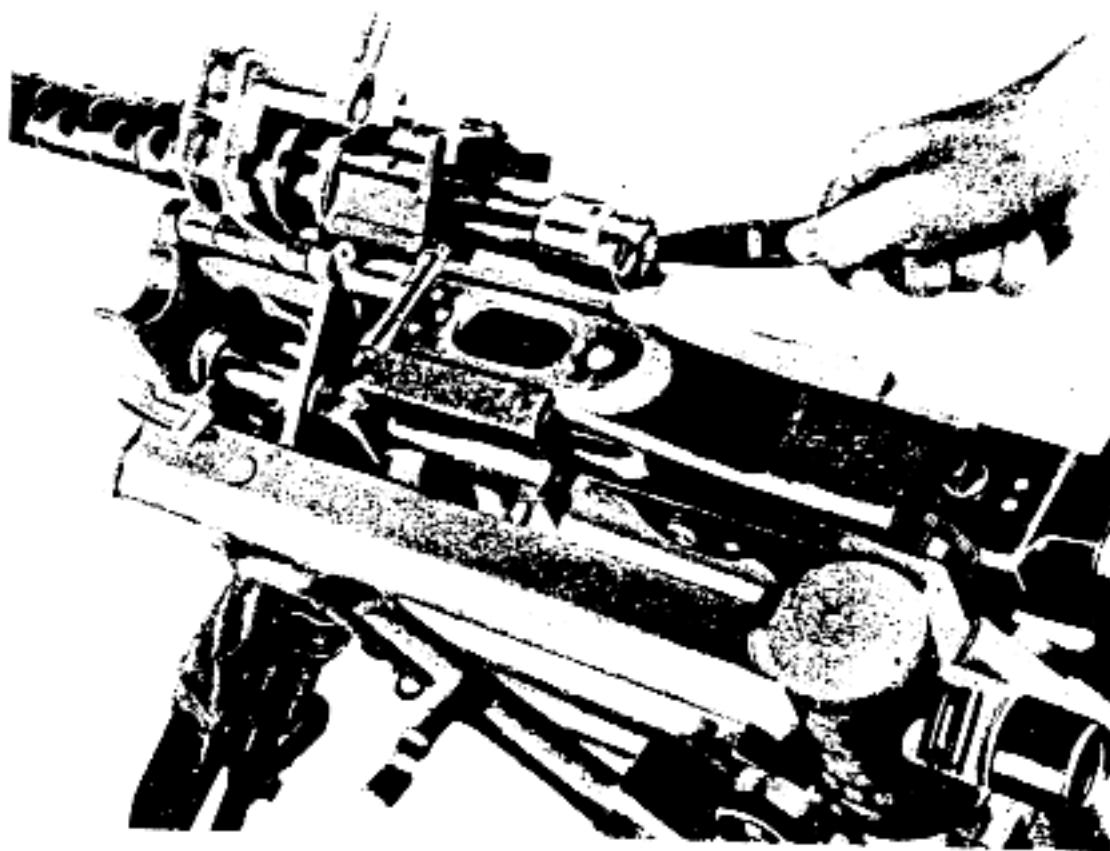

Figure 42 — Removing a Hot Barrel
(2) Remove the hot barrel with the leading tab or any other convenient tool (fig. 42). Insert a fresh barrel and rotate the barrel casing until the receiver catch snaps into position. Set safety at **FIRE**. Grasp the cocking handle and pull trigger, allowing bolt to move slowly home.